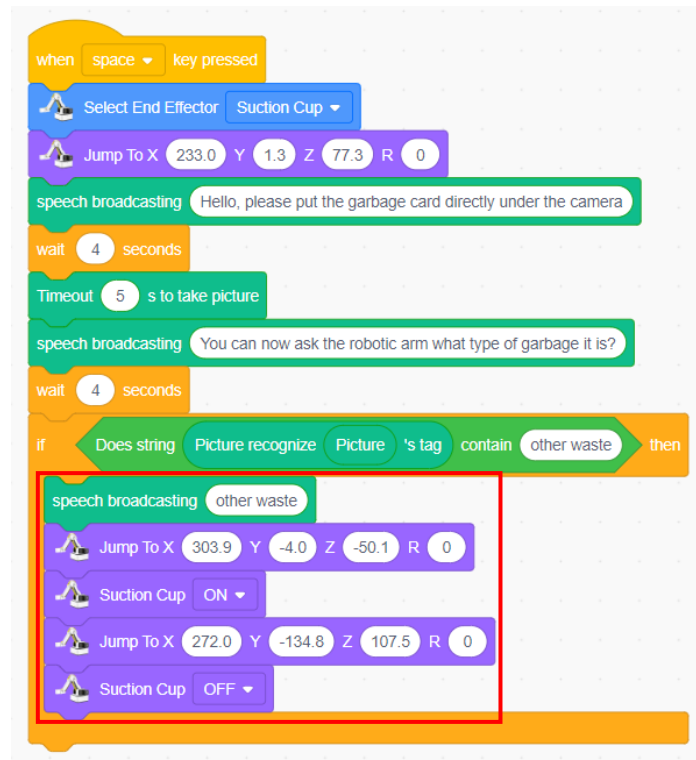

Figure 3.17 Robotic arm automatically classifies garbage
Step 5: If you have all the conditions met, then play the voice prompt and put the garbage into the corresponding garbage bin, as shown in Figure 3.17.